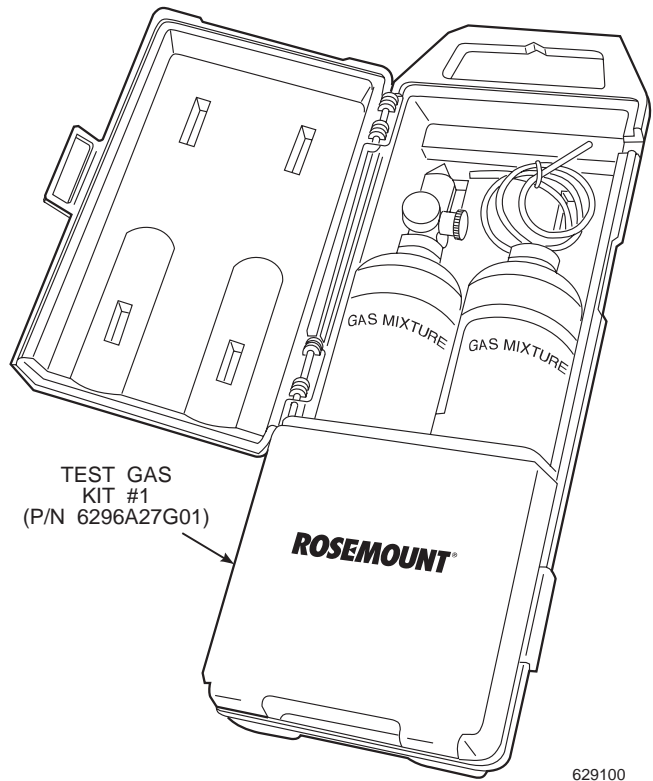

Figure 3-3. Portable Rosemount Oxygen Test Gas Kit
- 1 Portable Rosemount Oxygen Test Gas Kits (Figure 3-3), Rosemount Part Number 6296A27G01, containing 8% and 0.4% gases in a portable carrying case with regulator, built-in valve, hose and hose connecting adapter to the calibration gas connection.